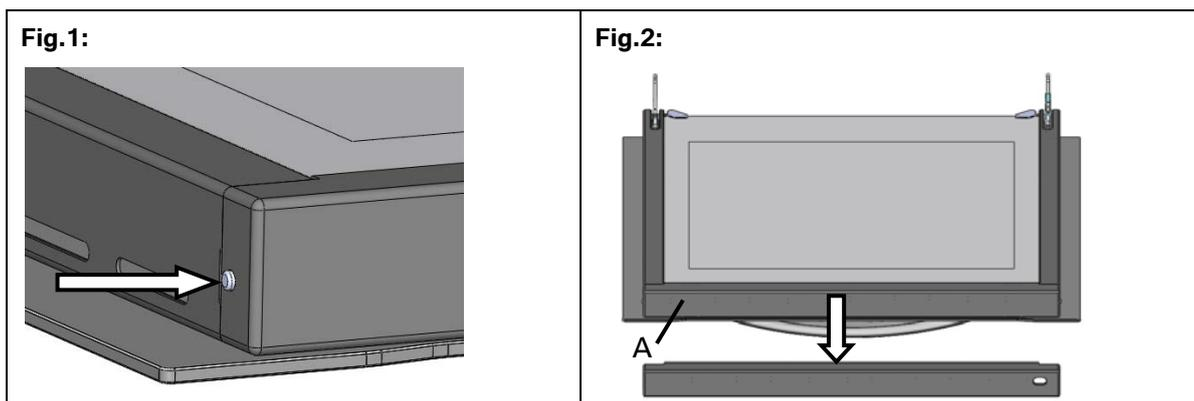

Fig.3:
- Remove the seal A (Fig.2), B, C (Fig.3) by push the no.2 rods of left and right sides (fig.1)